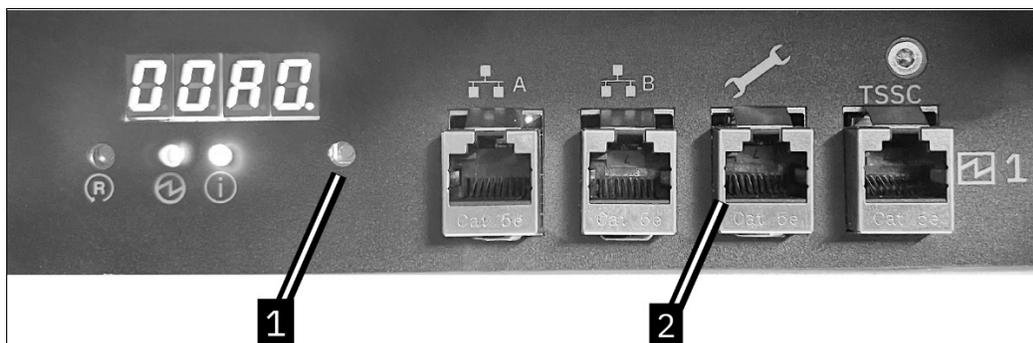

Figure 5-103 Library back panel
1. Press the Access Recovery button (1 in Figure 5-103) on the front of the electronics tray. If a remote connection is not available, connect a laptop to the service port.